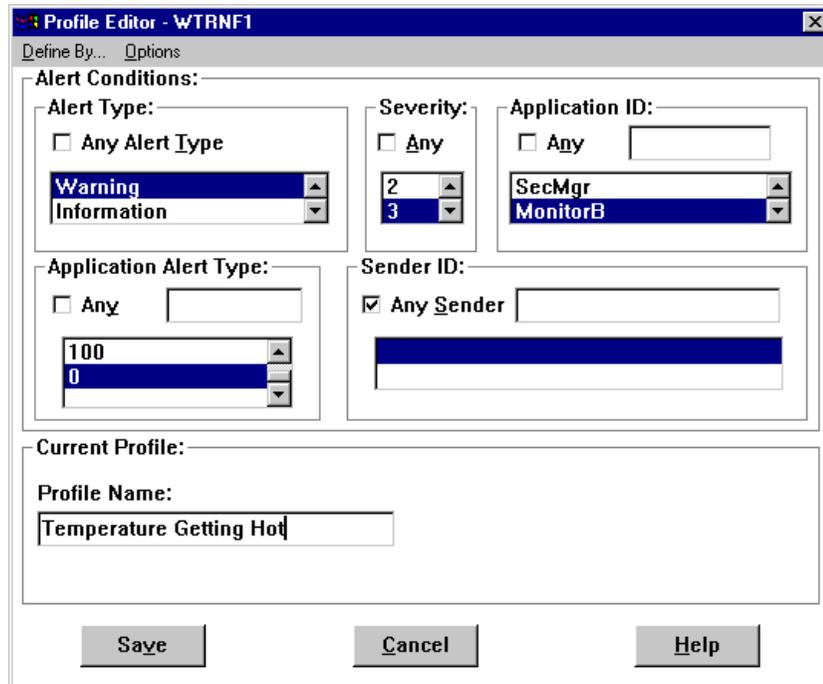

Figure 157. Profile Editor for 40°C Alert
For the 40°C alert, we would get a severity 3 warning and at 50°C mark we would get a severity 1 error. The alert conditions for the 40°C mark can be seen in Figure 157:
11. Save the defined profile. This action will now appear in the Profile List window of the Alert Profiles window. The profile editor will look like Figure 157 at this point.